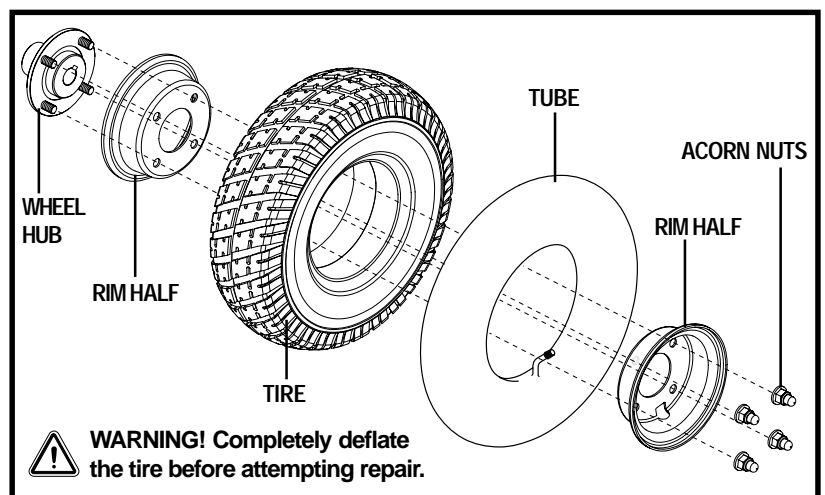

Figure 22. Jazzy Select Drive Wheel Disassembled
7. Remove the acorn nuts that fasten the two rim halves together. See figure 22.